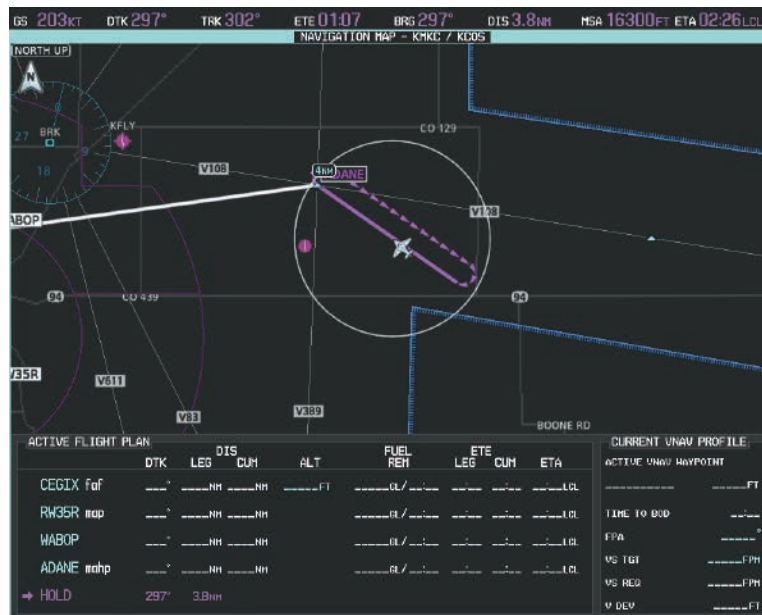

Figure 5-205 Hold Established
- 25) The aircraft maintains 9,000 feet while following the magenta line through the hold as in Figure 5-205.